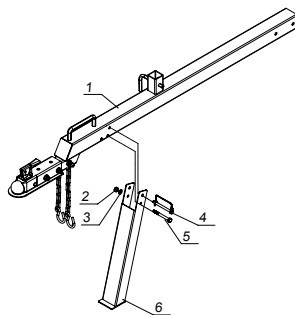

Figure 3
1. Attach the support leg (#6) to the tow bar (#1) secure using a hex bolt M10x95 (#5), flat washer Ø10 (#3), Nylon lock nut M10 (#2) and lock pin A (#4). (See fig. 3)